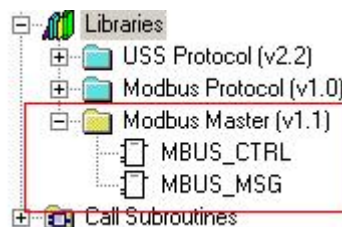

Figure F3-1 MODBUS Application Library
**Step 1: Find the library that supports MODBUS communication in the PLC. As shown in Figure F3-1:**